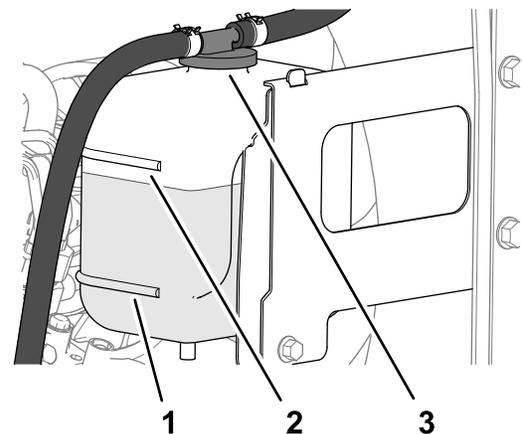

Figure 99
3. Check the level of coolant in the expansion tank (Figure 99).